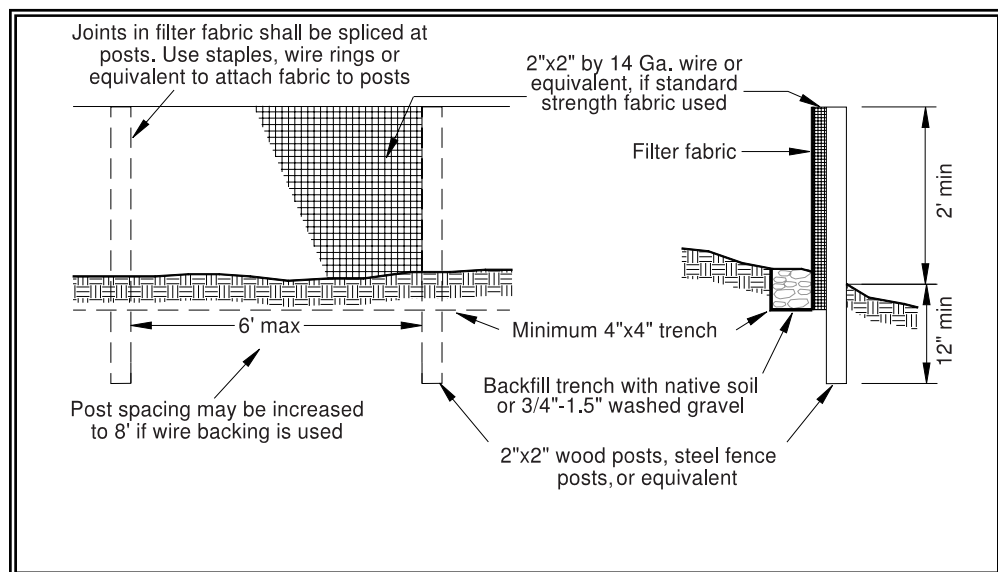

Figure 4.19 – Silt Fence
Use of a silt fence reduces the transport of coarse sediment from a construction site by providing a temporary physical barrier to sediment and reducing the runoff velocities of overland flow. See Figure 4.19 for details on silt fence construction.
- Standard Notes for construction plans and specifications follow. Refer to Figure 4.19 for standard silt fence details.